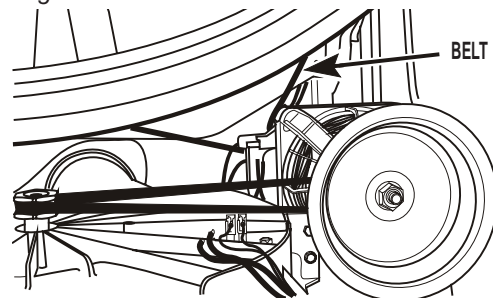

FIGURE 8
- Place belt around drum. Install the drum into the dryer and finish installation of belt to pulley. Lift idler pulley upward, loop end of belt under idler, then slide belt onto motor pulley. See *Figure 8*.